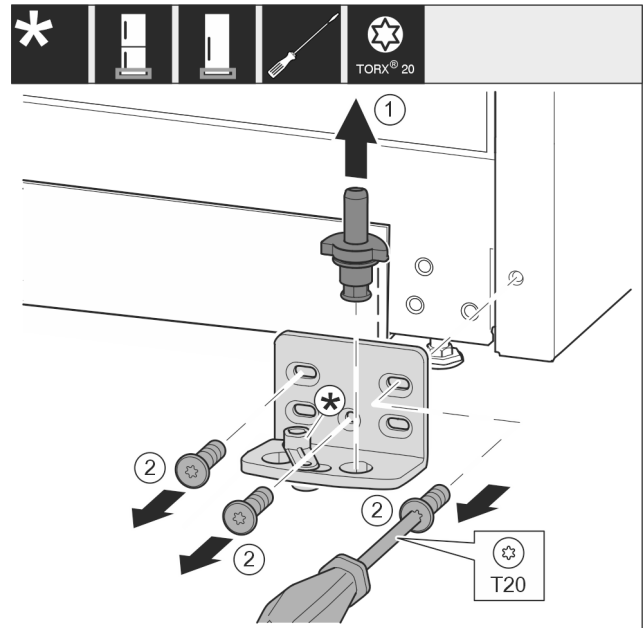

Fig. 16 *
- Pull the bearing bolt Fig. 16 (1) out upwards completely.*
- Use screwdriver to unscrew the screws Fig. 16 (2) and remove the swap bearing block.*